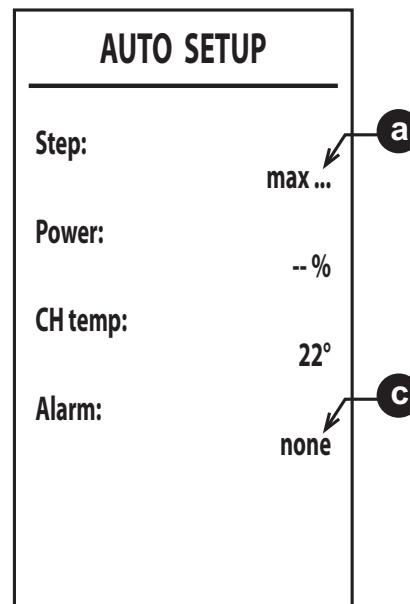

fig. 51
6. After ignition, the burner goes to heating at the various powers (max, med, min) indicated by point **a** (fig. 51).
8. If the ignition sequence described in point **"6"** is not successful, the message **max_err** at point **a** and an error code at point **c** will appear (fig. 51).